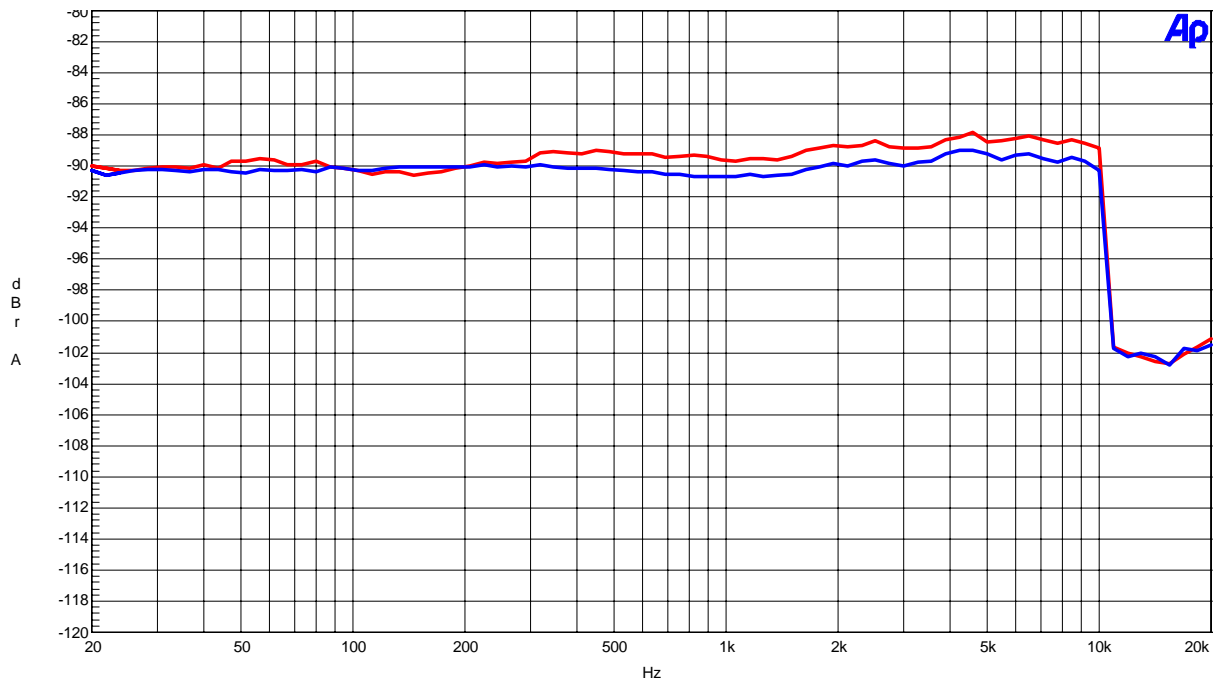

Figure 13. THD+N vs Input Frequency (Input Level=0dBFS)
- Figure 13. THD+N vs Input Frequency (Input Level=0dBFS)